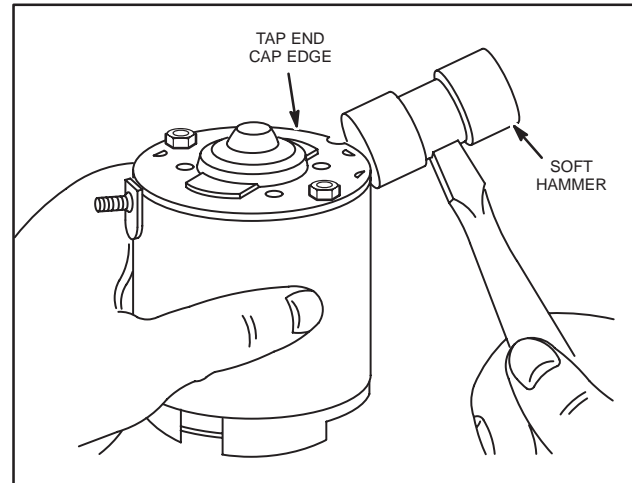

Fig. 675 – ALIGNING BEARINGS
9. Tap edge of end cap using a soft hammer to align motor bearings if required, Fig. 675.